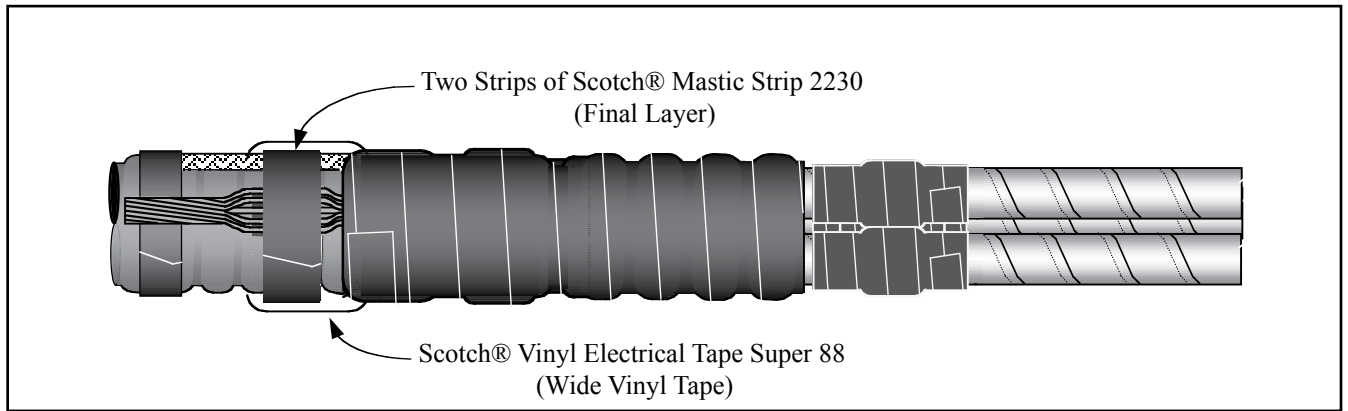

Figure 11
- 2.14 Wrap two additional strips of Scotch® Mastic Strip 2230 directly over previously applied mastic. (Figure 11).